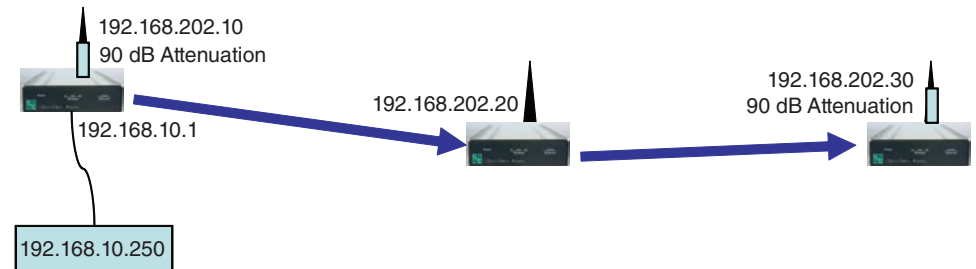

Figure 28. Testing for route discovery.
STEP 2. At Radio #30, install three 30-dB attenuators between the antenna and the antenna connector. See Figure 28.